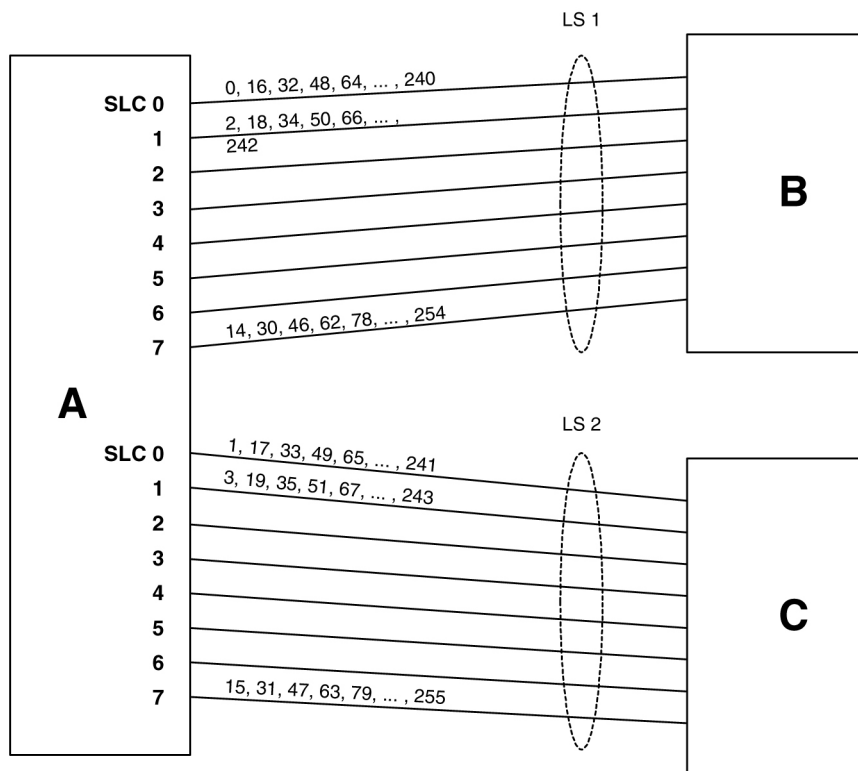

Figure 24: Random SLS Mapping to a Combined Linkset
Figure 24: Random SLS Mapping to a Combined Linkset shows an example of a combined linkset from node A to nodes B and C, with 8 links per linkset. Since 8 bits allows for values 0-255 (decimal), the figure shows how these values are internally mapped to the links of the combined linkset. For ease of reading, not all values are shown.
3. The changed SLS value (with fifth and possibly also first bits ignored) is then divided by the number of links in the linkset (not a combined linkset) and the remainder gives the SLC value. For example, in Figure 24: Random SLS Mapping to a Combined Linkset, the SLS value 78 is mapped to SLC 7 in linkset LS1 as follows: